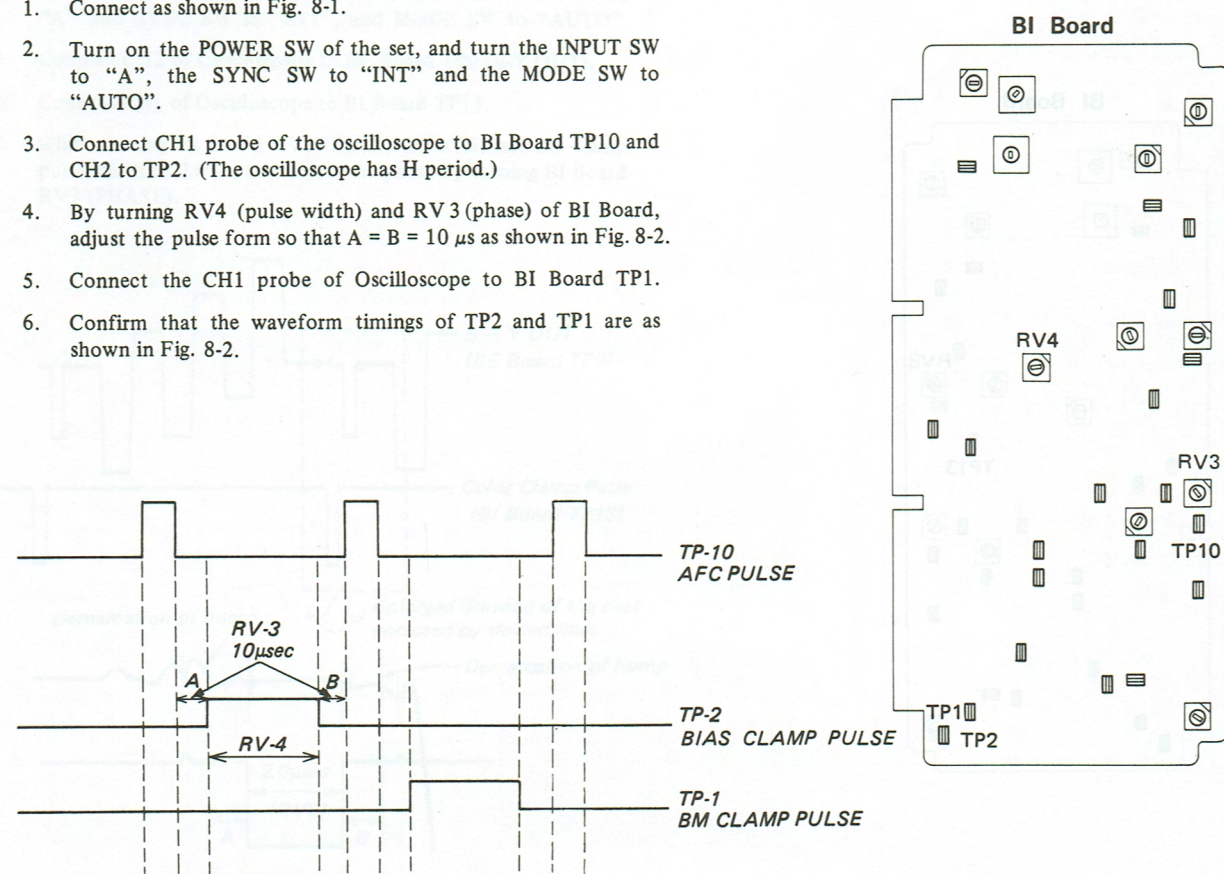

Fig. 8-2.
4. By turning RV4 (pulse width) and RV3 (phase) of BI Board, adjust the pulse form so that $A = B = 10 \mu s$ as shown in Fig. 8-2.
6. Confirm that the waveform timings of TP2 and TP1 are as shown in Fig. 8-2.